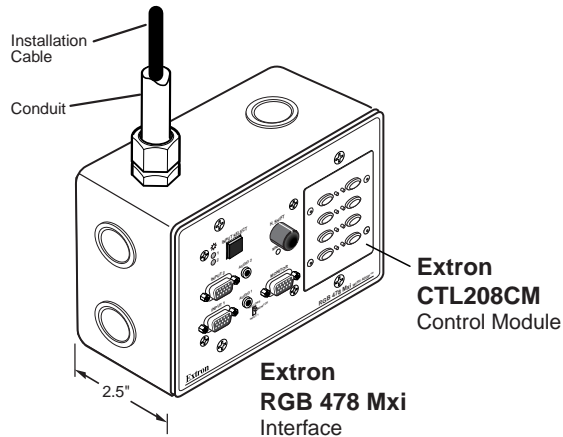

Figure 2-1 — CTL208CM in a four-gang wall box
The following Underwriters Laboratories (UL) requirements pertain to the installation of the CTL208CM into a wall or furniture (figure 2-1).